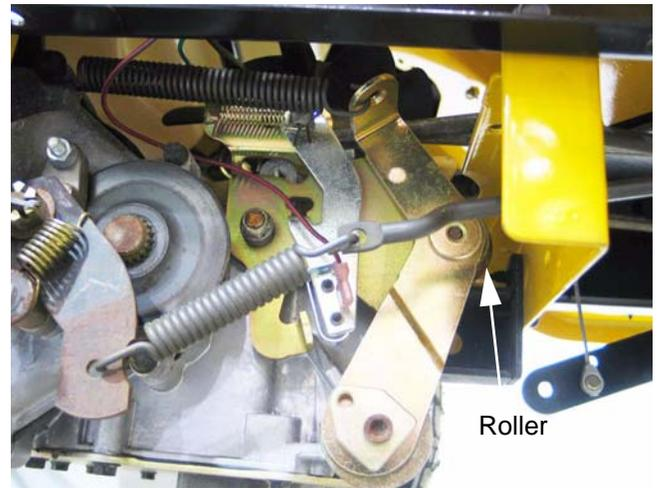

Figure 31.31
31.31. **To adjust the input arm on the hydro:** Confirm that the roller on the return arm draws fully into the valley in the cam surface on the front of the input arm. See Figure 31.31.